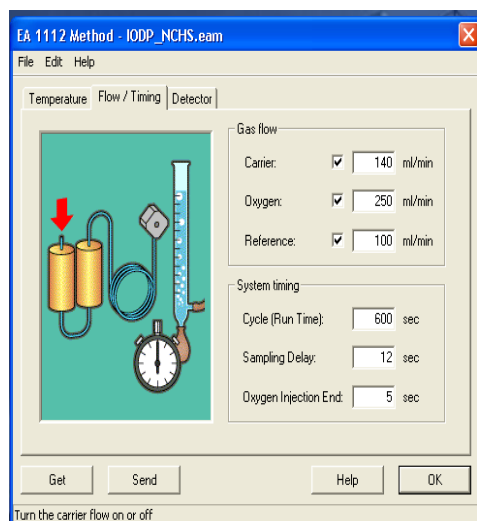

Figure 8. Flow/Timing Tab.
2. Select the **Flow / Timing** tab (*Figure 8*).